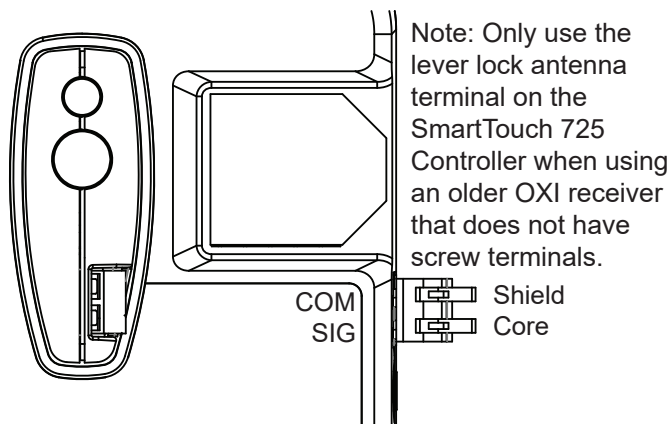

Figure 45. OXI Antenna Terminal
3. Install a coaxial antenna into the OXI receiver terminals for better range (Figure 45). Route the cable through a knock out in the electrical enclosure and conduit to a fixed fence post near the operator. Mount the external antenna on top of the fixed fence post.